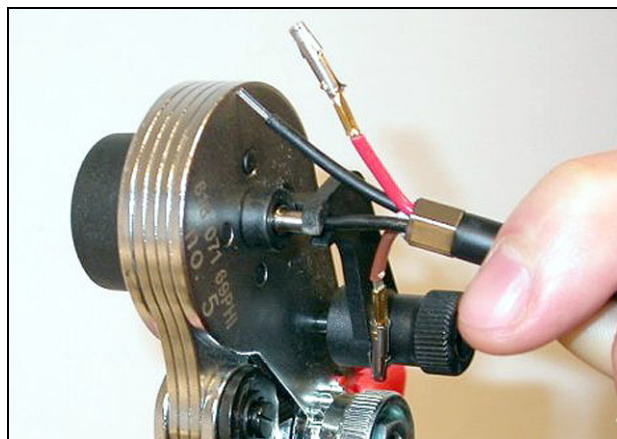

figure 45.23: Crimping ferrules (1)
- 22 Put one plastic optical fiber into the ferrule in the spring-loaded stop of the POF positioning tool (refer to figure 45.23).